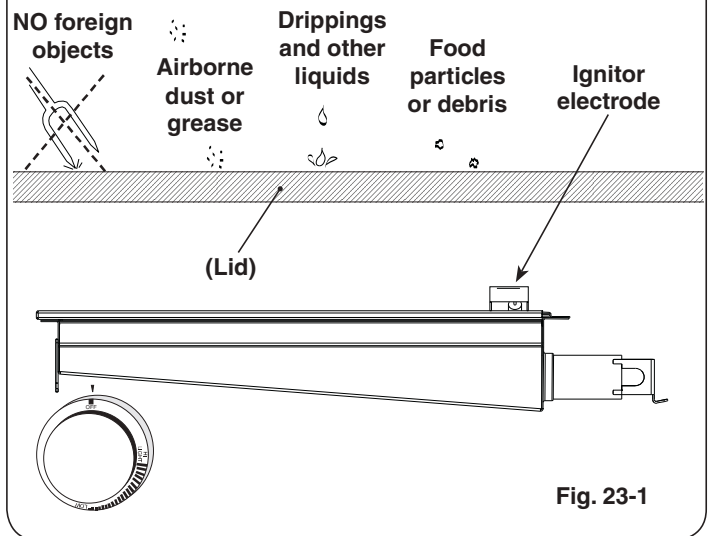

Fig. 23-1
- When not in use, **always** cover the infrared burner with the stainless-steel lid. This protects the burner from drippings (from other cooking), airborne particles, and foreign objects (Fig. 23-1).
- Do not strike or scratch the burner ceramic as it may chip, crack, or break (Fig. 23-1).